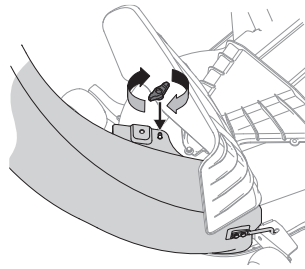

Figure 26
6. Secure the bagger chute elbow to the cutting deck using a wing knob from cart collection support assembly 689-02019. Refer to Figure 26.